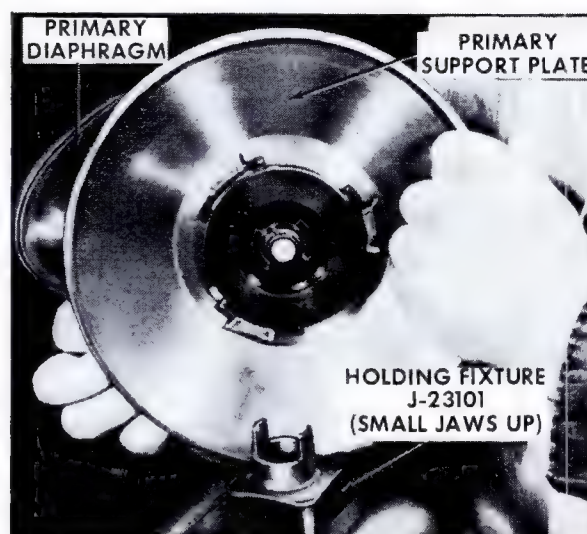

Fig. 5-41 Positioning Primary Power Piston
17. Mount tool J-23101 in a vise with small jaws up. Position the primary power piston so that the two radial slots in the piston fit over the jaws of the tool, Fig. 5-41.
20. Mount Holding Fixture, J-23101, in a vise, small jaws up. Position the primary power piston so that the two radial slots in the piston fit over the jaws of the tool, Fig. 5-41.